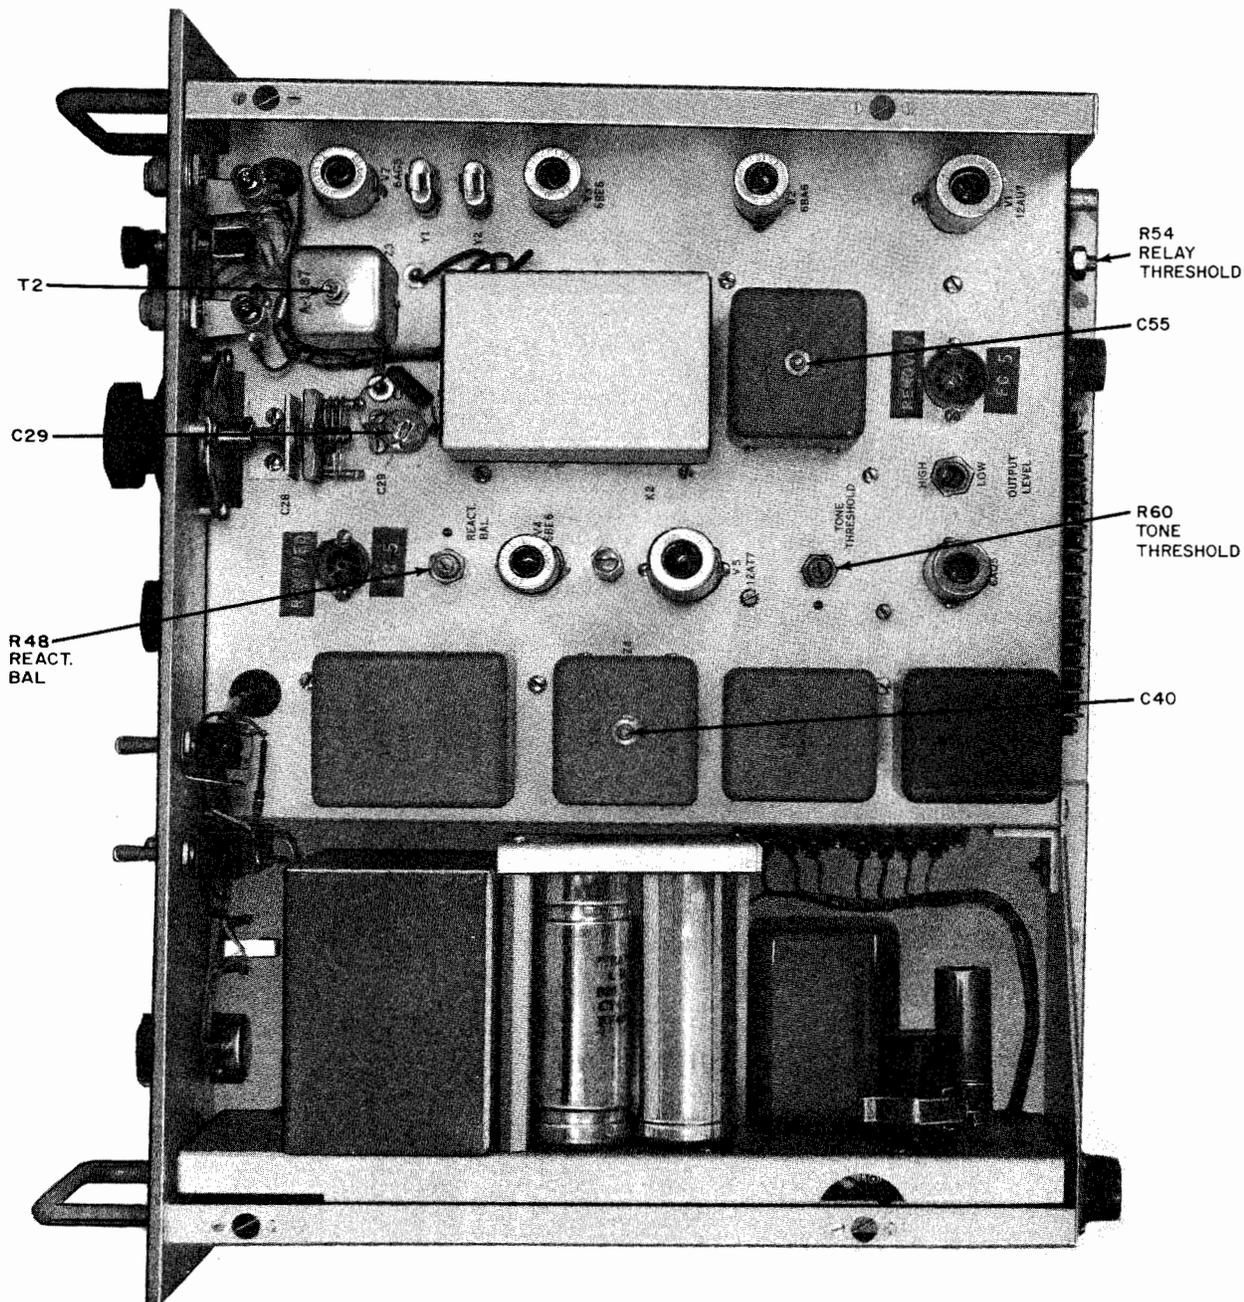

Figure 6-1. Single Sideband Converter CV-591A/URR, Alignment Setup
6.2.1 Alignment of Converter Using a Frequency Counter. The oscillators have been aligned to their correct frequencies at the factory. Readjustment will be required only if the performance of the converter is impaired (i. e., when the bandspread oscillator is off scale with a signal centered on 455 kHz). The oscillators may be aligned with either a frequency counter or with a receiver as the signal source. Refer to figure 6-1 for location of converter adjustment points.
7. Depress SIDEBAND switch so that the lamp on the left of the switch is lit (normally lower sideband (L)).
8. Adjust variable capacitor C29 (figure 6-1) until counter reads 438.000 kHz \pm 15 Hz.
3. Adjust C40 (p/o Z4) (figure 6-1) until counter reads 17 kHz \pm 10 Hz.
12. Compare the counter readings noted in steps 6, 7, 10, and 11. They should be 4 kHz above and 4 kHz below the upper (472.000 kHz) and lower (438.000 kHz) sideband frequencies. If these readings are off more than 500 Hz, adjust REACT BAL control R48 (figure 6-1) for proper balance.
7. Adjust TONE THRESHOLD control R-60 (figure 6-1) to mid range then turn a little on either side of mid range until counter begins to count and adjust for the highest frequency reading on the counter that is stable.
8. Adjust C55 on top of Z5 (figure 6-1) for a reading of 2500 ± 100 Hz.